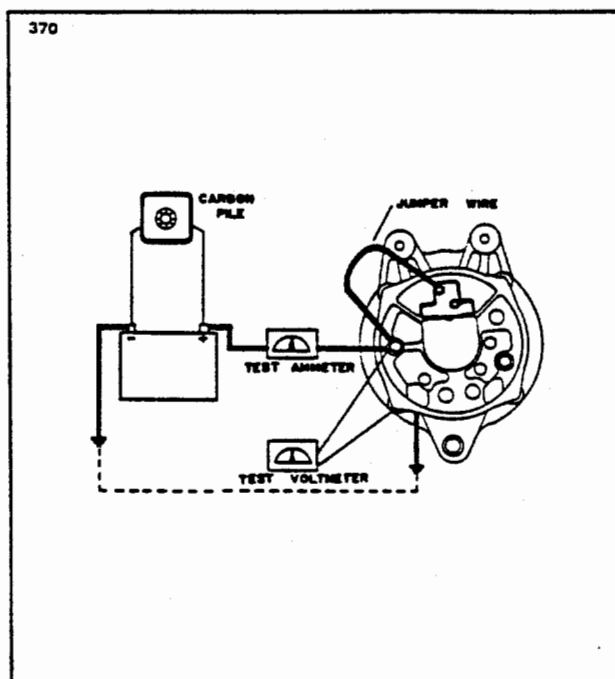

Figure 11-15. Testing Alternator
a. Wiring connections for bench testing the alternator are shown in Figure 11-15. Refer to the Alternator Service Test Specification paragraph for output test figures. Adjust the carbon pile if necessary, to obtain the specified voltage. Alternator not to be run more than 2 minutes for each test point.
11-16. ALTERNATOR SERVICE TEST SPECIFICATIONS. Refer to Figure 11-15, for test circuit used. Prestolite specifications for the 14-volt alternators installed as original equipment on PA-28-151 or -161 series airplanes are as follows: